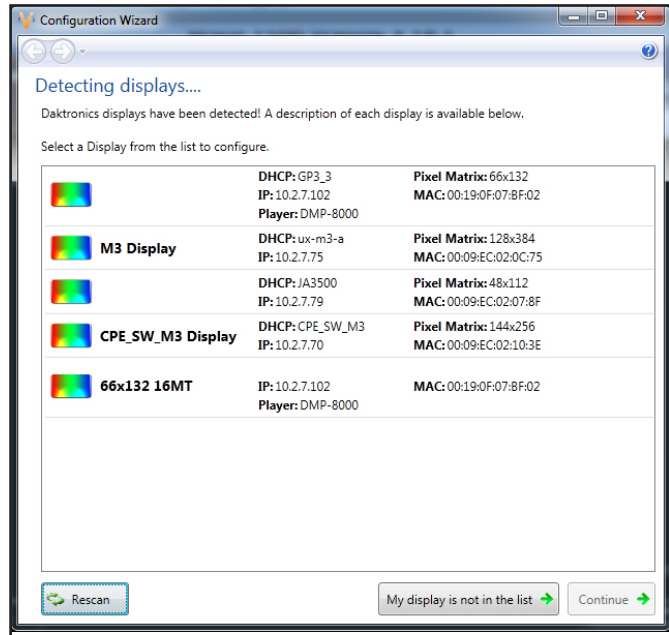

Figure 12: Displays Found List
5. Select the display you wish to configure and click **Continue**, as shown in **Figure 12**.